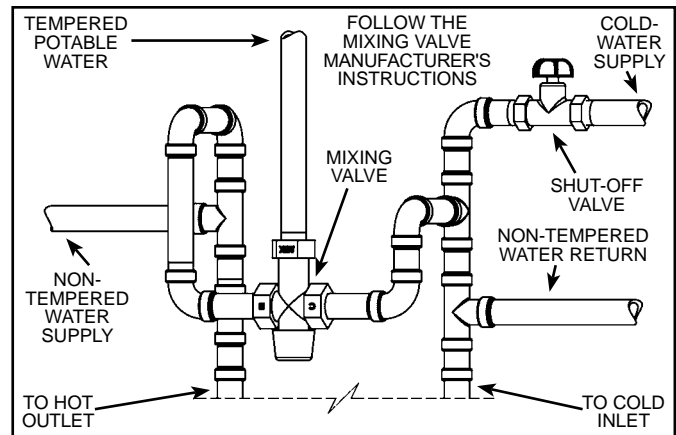

Figure 29
3. The manufacturer of this water heater recommends installing a mixing valve in the domestic hot-water line as shown in Figure 29. These valves reduce the point-of-use water temperature by mixing cold and hot water.